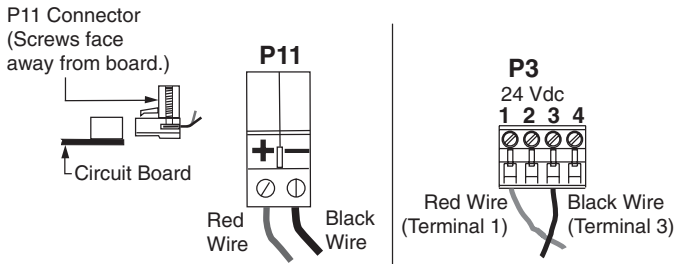

Figure 4.
- D. Insert wire into P11 with the red wire to the + side. Refer to Figure 4 for polarity orientation.